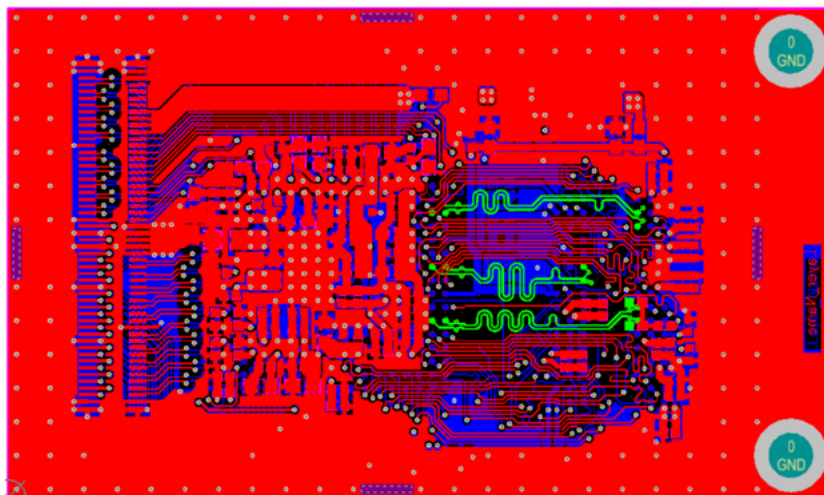
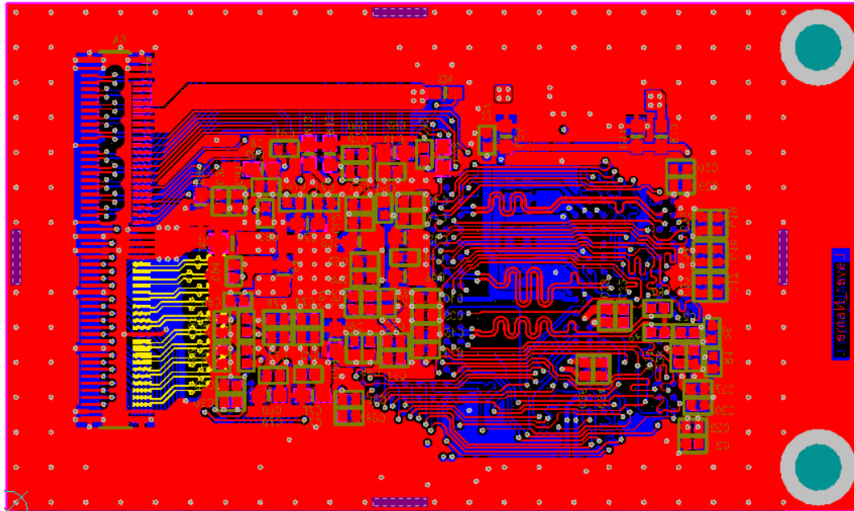

Figure 7 - 85Ω controlled impedance for memory strobe and clock signals
Figure 9 - 100Ω controlled impedance for LVDS transmit signals
Figure 7 to Figure 9 shows both sets of these controlled impedance signal traces.
1. **Differential Impedance:** Data strobe and clock differential traces, as illustrated in Figure 7, were routed with an impedance of $85\Omega \pm 10\%$.